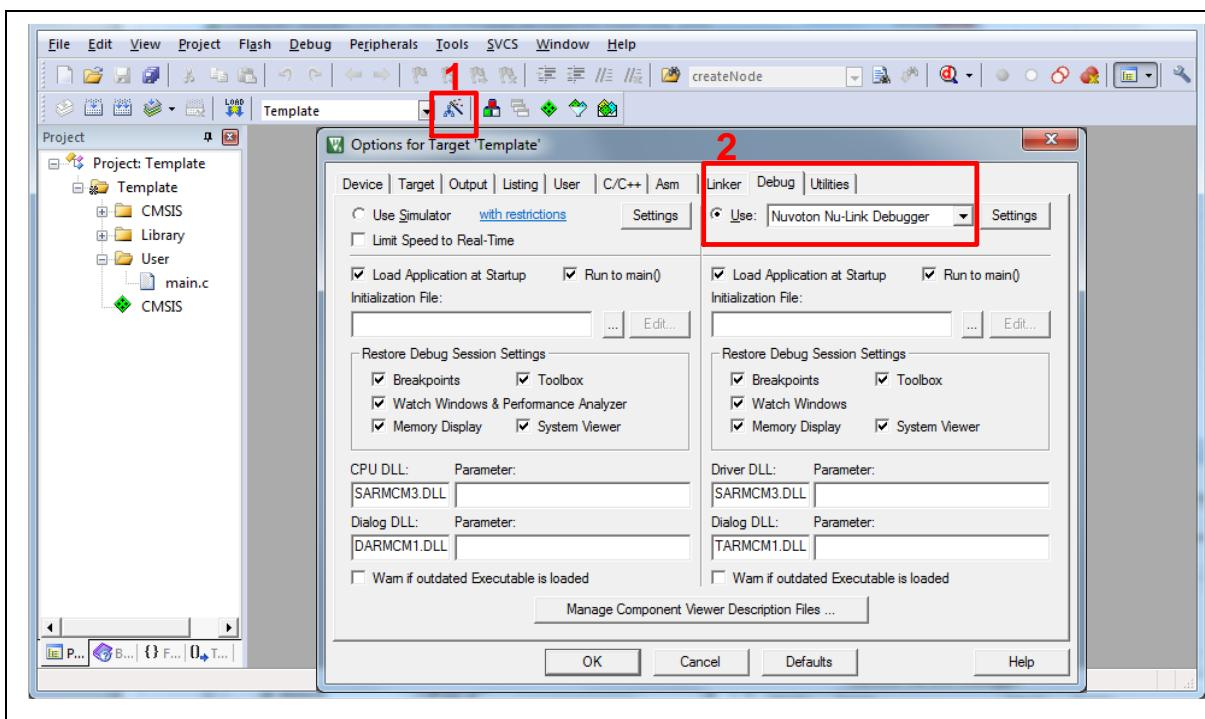
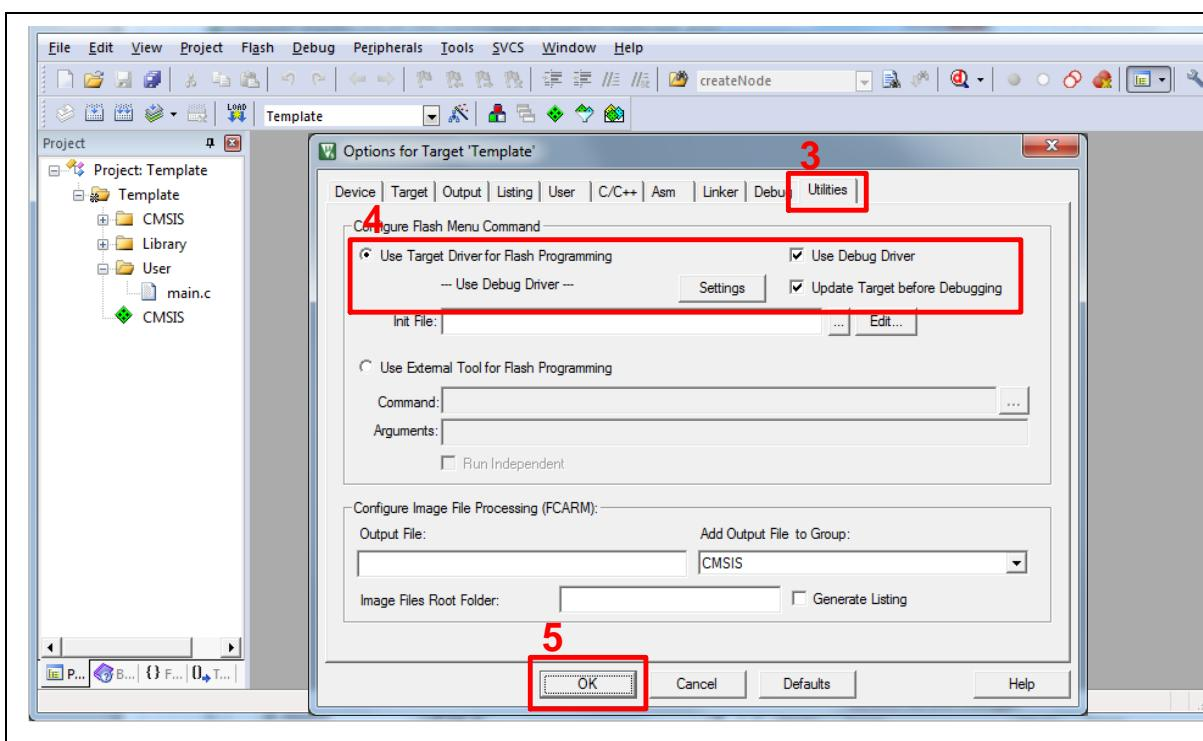

Figure 5-8 Debugger Setting in Options Window
Figure 5-9 Programming Setting in Options Window
2. Make sure the debugger is “Nuvoton Nu-Link Debugger” as shown in Figure 5-8 and Figure 5-9.
Note: If the dropdown menu in Figure 5-8 does not contain “Nuvoton Nu-Link Debugger” item, please rework section 5.2.